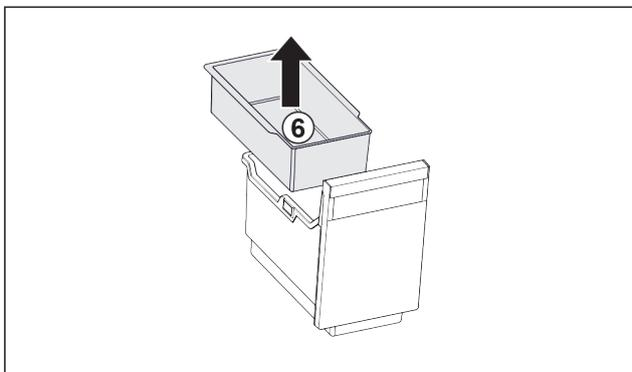

Fig. 19
- ▶ Remove the hang-on tray Fig. 19 (6).